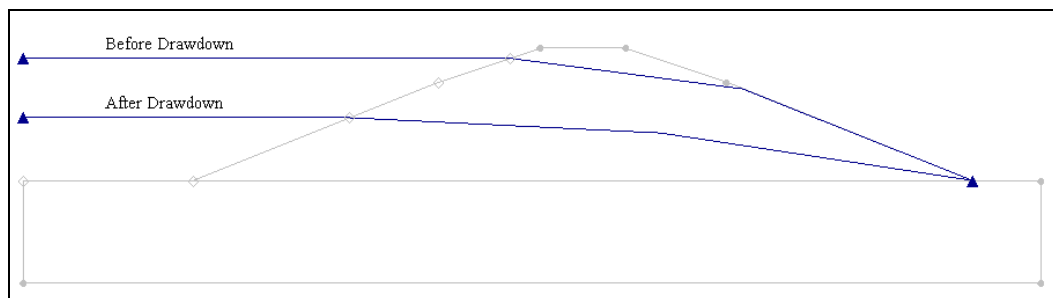

Figure 3. Piezometric Lines Before and After Drawdown.
1. Using the *Create Arc* tool  connect the points to form the “Before Drawdown” arc shown in Figure 3 above. If you can't see all four nodes, turn off the *Profile* coverage in the *Project Explorer*.
At this point you should have created the two piezometric lines shown in Figure 3 (above) and can turn **on** the *Profile* coverage if it was off.